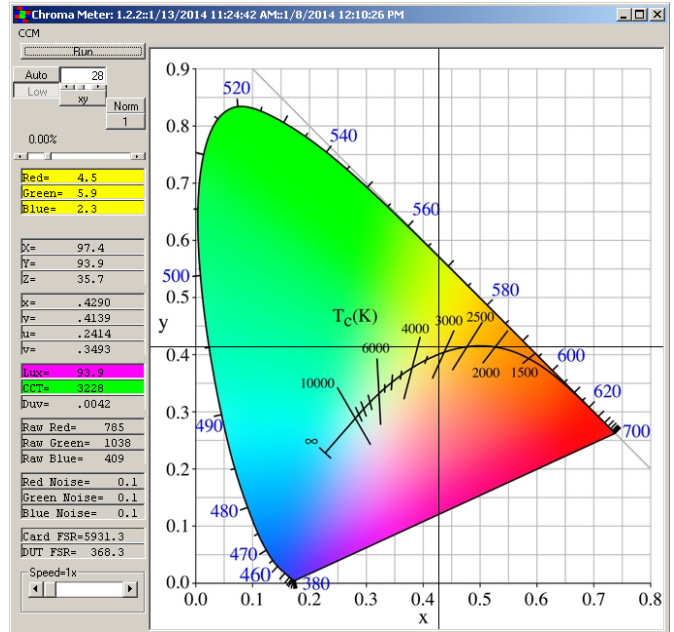
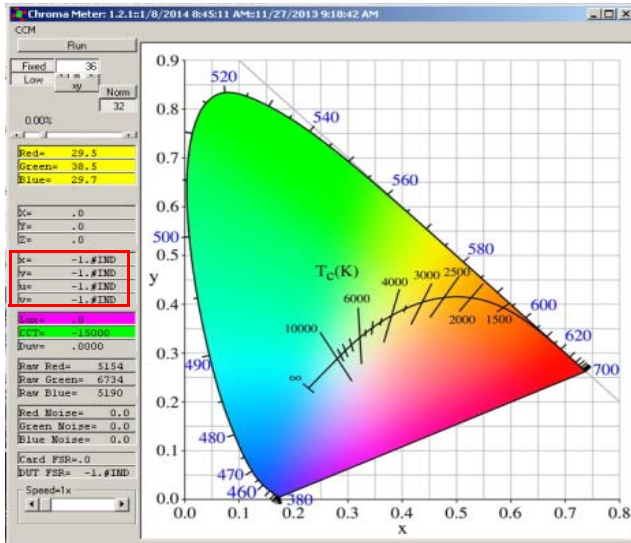

FIGURE 9. CHROMA TEST GUI
FIGURE 12. USB CONNECTED ERROR OR EEPROM FILE DOES NOT LOAD
C) Once “ChromaMeter” is clicked, the window displayed in Figure 9 should open; if it does not display cross-points in the Chromaticity diagram on the right and numbers on the left panel of GUI, then check your connections. If the problem still persists, then you may want to restart the software. Figure 12 shows the error message that displays if the evaluation board is improperly attached.
D) Figure 9 shows an example using the ISL29125. Please note that all demonstrations within this document use the ISL29125.
16. Speed: Allows the user to select the number of ADC bits and the speed of the conversion. Details shown in Figure 9.